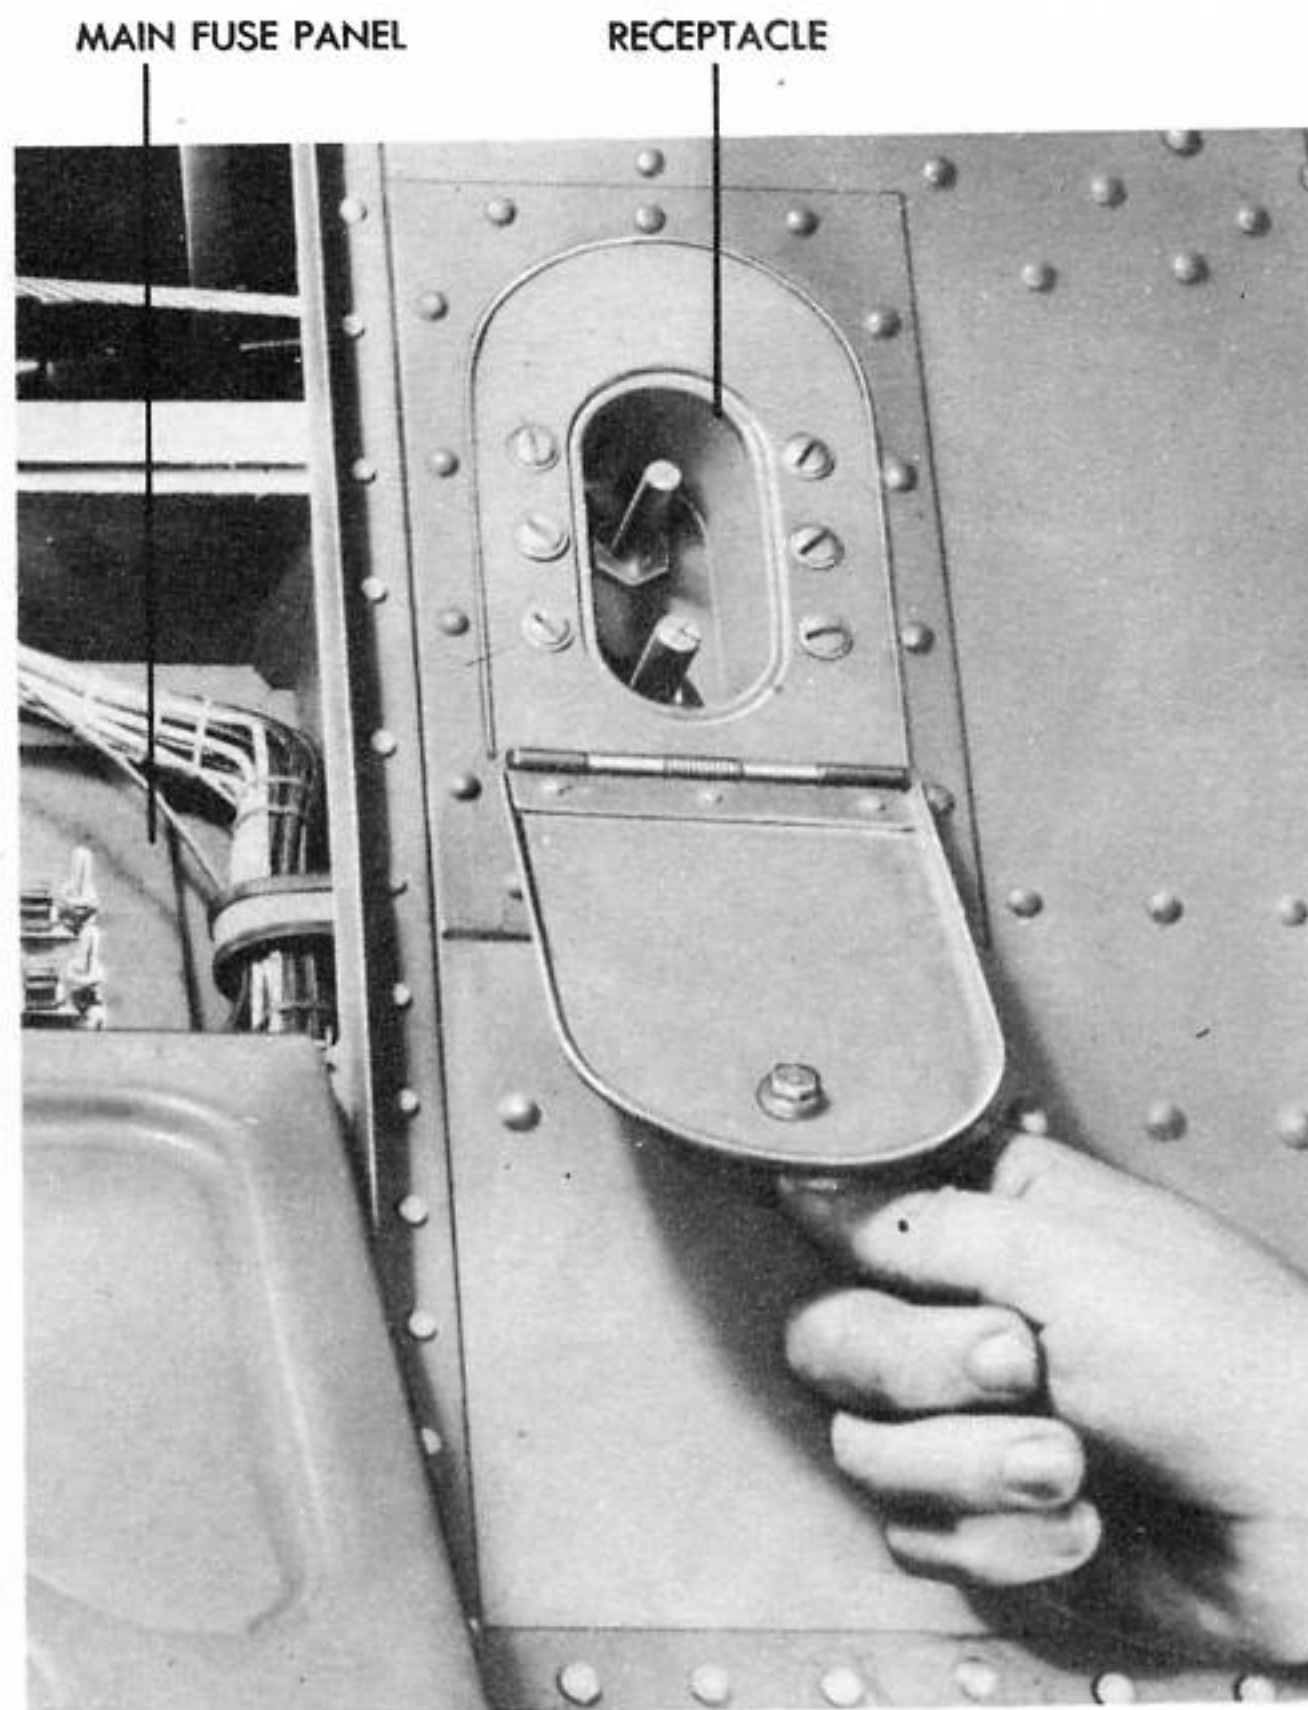

Figure 235 - EXTERNAL POWER
(5) EXTERNAL POWER FOR STARTING ENGINES AND FOR CHECKING EQUIPMENT. - To ensure that batteries will be charged at take-off so they will be adequate for emergency conditions, use an external electrical supply such as a battery cart or portable 28-volt power plant to start the engines. Plug the external power supply into the external power receptacle on the left side of the nose wheel well. (See figure 235.) If an external power supply is not available, an energizer may be used to start the engines. If a portable power plant is used, it may be connected to the airplane a short time before take-off and the main line and battery switches turned on so the batteries will charge. Use external power for checking of electrically operated equipment on the ground. If an external power supply is being used, all electrically controlled units in the airplane may be operated with the main battery switch and the master ignition switch OFF. To start the engines on the external power supply, the master ignition switch must be ON. When changing over from the external power supply to the airplane's batteries with the engines running, the main battery switch must be ON before the external supply plug is disconnected.
(6) SWITCHES.